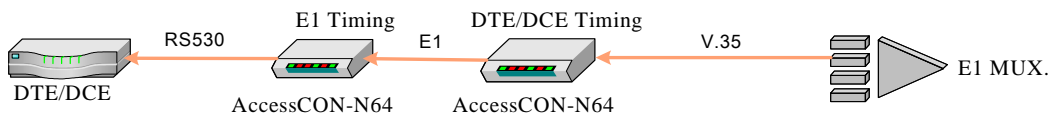

Fig. 1.7. DTE/DCE timing mode
- DTE/DCE timing mode:** The E1 transmit signal is locked to the recovered DTE or DCE receive clock, as shown in Figure 1.7. And the other equipments must operate on the recovered E1 clock signal. This is usually the timing mode selected for E1-Mux. application.